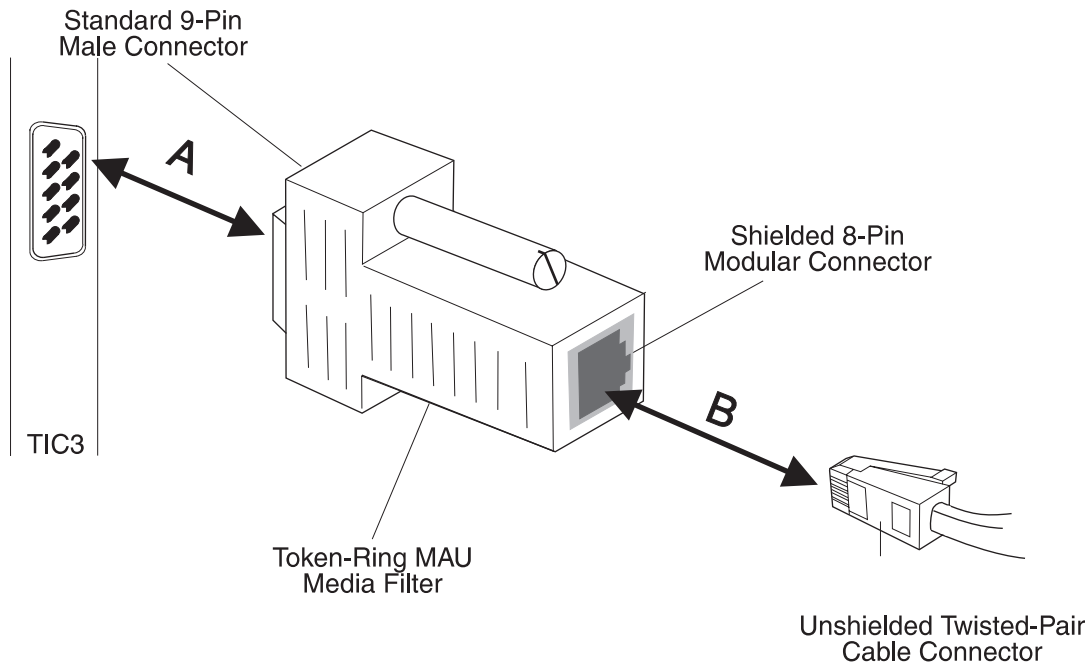

Figure C-6. Installing or Removing a Token-Ring UTP Cable and Media Filter
Step 2 Pinch the UTP cable connector and pull it out (see A in Figure C-6 on page C-6).
- Step 2** Loosen the retaining screws and pull out the media filter (see A in Figure C-6).
- Step 2** Insert the media filter into the TIC3 connector and tighten the retaining screws (see A in Figure C-6).
- Step 1** To plug in a UTP cable, push the connector into the media filter socket until it clicks into place (see B in Figure C-6).